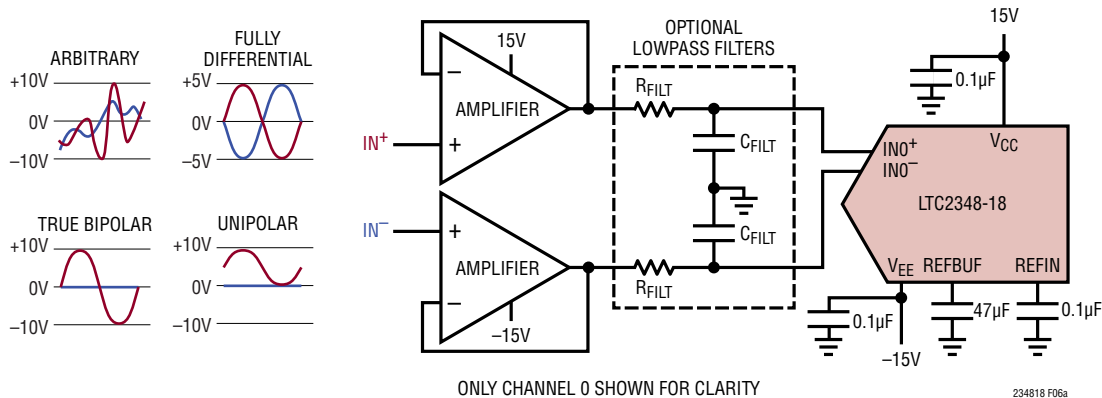

Figure 6a. Buffering Arbitrary, Fully Differential, True Bipolar, and Unipolar Signals. See Table 2 For Recommended Amplifier and Filter Combinations
The wide common mode input range and high CMRR of the LTC2348-18 allow each channel's  $IN^+$  and  $IN^-$  pins to swing with an arbitrary relationship to each other, provided each pin remains between ( $V_{CC} - 4V$ ) and  $V_{EE}$ . This unique feature of the LTC2348-18 enables it to accept a wide variety of signal swings, simplifying signal chain design. In many applications, connecting a channel's  $IN^+$  and  $IN^-$  pins directly to the existing signal chain circuitry will not allow the channel's sampling network to settle to 18-bit resolution within the ADC acquisition time ( $t_{ACQ}$ ). In these cases, it is recommended that two unity-gain buffers be inserted between the signal source and the ADC input pins, as shown in Figure 6a. Table 2 lists several amplifier and lowpass filter combinations recommended for use in this circuit. The LT1469 combines fast settling, high linearity, and low offset with  $5nV/\sqrt{Hz}$  input-referred noise density, enabling it to achieve the full ADC data sheet SNR and THD specifications, as shown in the FFT plots in Figures 6b to 6e. In applications where slightly degraded
**Table 2. Recommended Amplifier and Filter Combinations for the Buffer Circuits in Figures 6a and 9. AC Performance Measured Using Circuit in Figure 6a,  $\pm 10.24V$  Range**
Figure 6b. Two-Tone Test.  $IN^+ = -7$ dBFS 2kHz Sine,  $IN^- = -7$ dBFS 3.1kHz Sine, 32k Point FFT,  $f_{SAMPL} = 200$ ksps. Circuit Shown in Figure 6a with LT1469 Amplifiers,  $R_{FILT} = 49.9\Omega$ ,  $C_{FILT} = 1000$ pF
Figure 6c.  $IN^+/IN^- = -1$ dBFS 2kHz Fully Differential Sine,  $V_{CM} = 0$ V, 32k Point FFT,  $f_{SAMPL} = 200$ ksps. Circuit Shown in Figure 6a with LT1469 Amplifiers,  $R_{FILT} = 49.9\Omega$ ,  $C_{FILT} = 1000$ pF
Figure 6d.  $IN^+ = -1$ dBFS 2kHz True Bipolar Sine,  $IN^- = 0$ V, 32k Point FFT,  $f_{SAMPL} = 200$ ksps. Circuit Shown in Figure 6a with LT1469 Amplifiers,  $R_{FILT} = 49.9\Omega$ ,  $C_{FILT} = 1000$ pF
Figure 6e.  $IN^+ = -1$ dBFS 2kHz Unipolar Sine,  $IN^- = 0$ V, 32k Point FFT,  $f_{SAMPL} = 200$ ksps. Circuit Shown in Figure 6a with LT1469 Amplifiers,  $R_{FILT} = 49.9\Omega$ ,  $C_{FILT} = 1000$ pF
While the circuit shown in Figure 6a is capable of buffering single-ended input signals, the circuit shown in Figure 9 is preferable when the single-ended signal reference level is inherently low impedance and doesn't require buffering. This circuit eliminates one driver and lowpass filter, reducing part count, power dissipation, and SNR degradation due to driver noise. Using the recommended driver and filter combinations in Table 2, the performance of this circuit with single-ended input signals is on par with the performance of the circuit in Figure 6a.